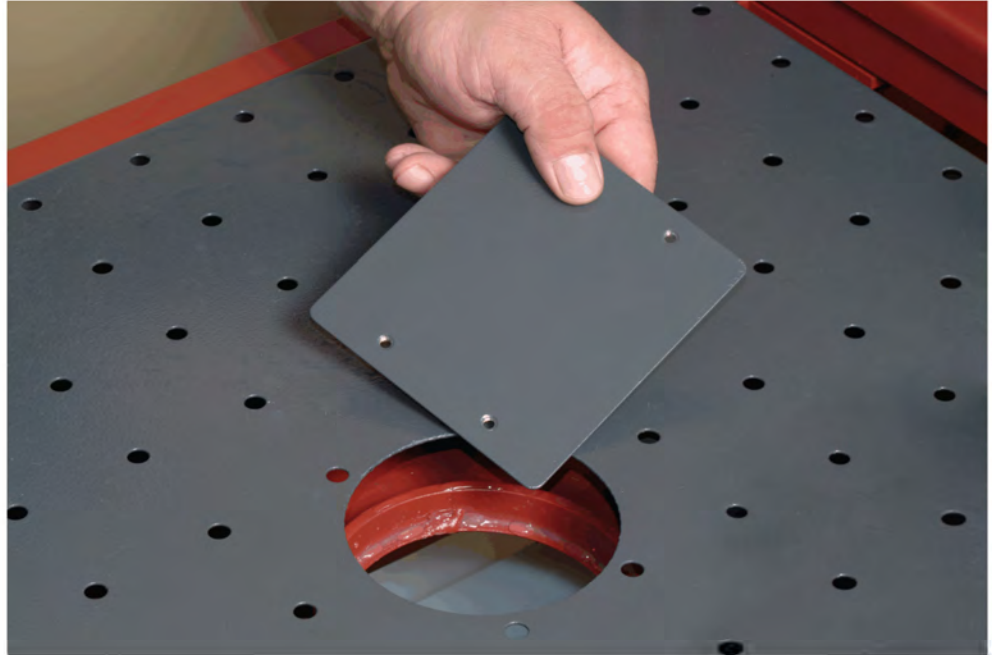

Figure 1-5. Remove the cover plate on the work surface.
- 6. Remove the cover plate on the work surface of the pump bench. See Figure 1-5.